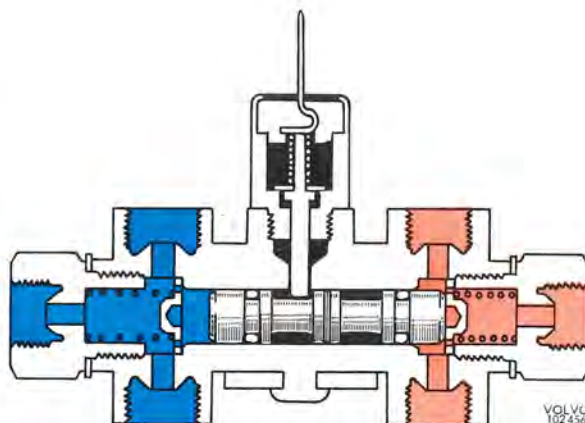

Fig. 5-40. Warning position
It is only when the pressure in the secondary circuit first exceeds that in the primary circuit by about 10 kPa/cm² (142 psi) that the pistons are pushed so far to the right that the guide pin (4) can be pressed downwards. When this happens, the switch washer (2) reaches the housing (3) and current cuts in (Fig. 5-40). The guide pin is prevented from returning to its normal position until the fault has been rectified and the switch housing (3) screwed out.